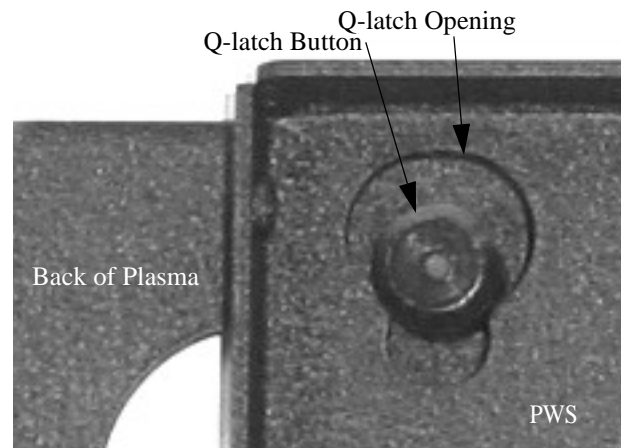

FIGURE 5. ENGAGE Q-LATCH
3. Using two people, align the Q-latch buttons with the Q-latch openings and install the display. Make sure the buttons of the Q-latch bracket fully engage all the Q-latch openings on the PWS (see Figure 5).